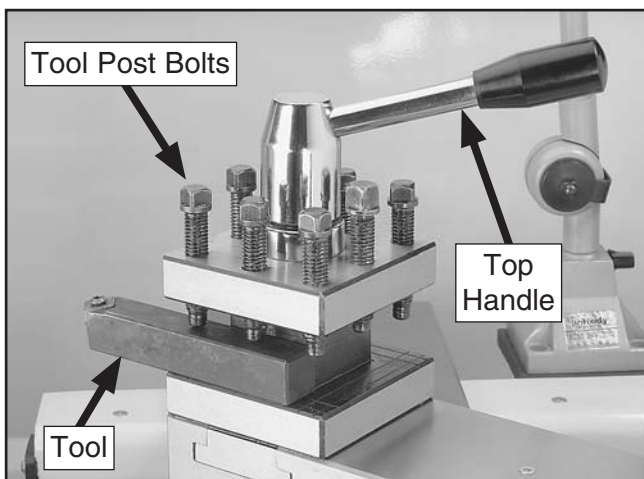

Figure 50. Tool holder and tool post.
4. Use a minimum of two tool post bolts to secure the cutting tool and tighten firmly (see **Figure 50**).